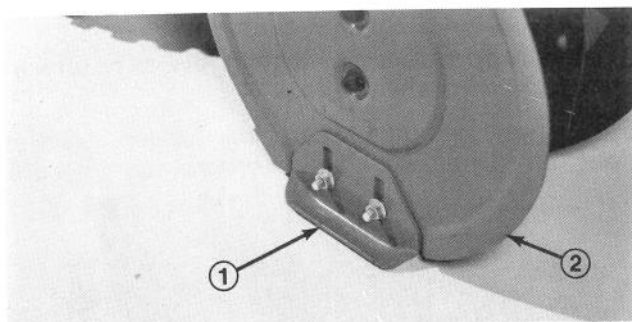

Figure 27
1. Move snowthrower to a level surface. Next, loosen four flange nuts (Fig. 27) securing both skids to auger side plates. Skids must slide up and down.
3. Loosen four flange nuts (Fig. 27) securing both skids to auger side plates. Next, slide skids down as far as possible so auger is as far from level surface as skid adjustment allows; then tighten flange nuts.